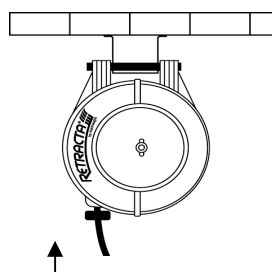

Fig.2 Overhead mounting (max height 4.5m)
- 2) Prevent the reel from swiveling in the overhead position (figure 2) by install locking bracket RP157 (supplied).